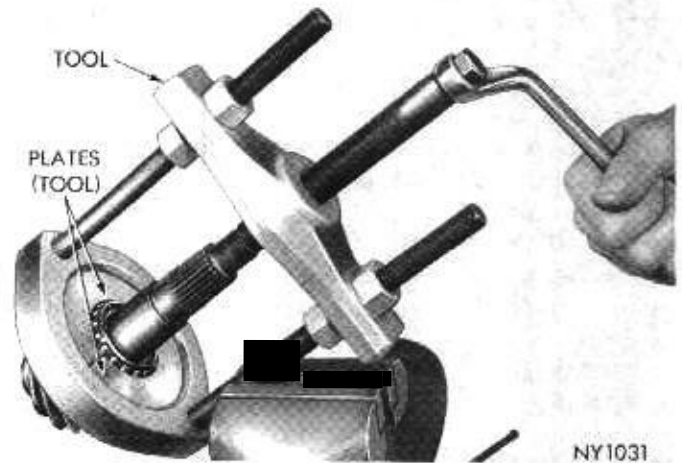

Fig. 15—Removing Rear Pinion Bearing Cone
(23) Remove rear pinion bearing cone from pinion stem using Tool C-293 and #40 plates (Fig. 15).